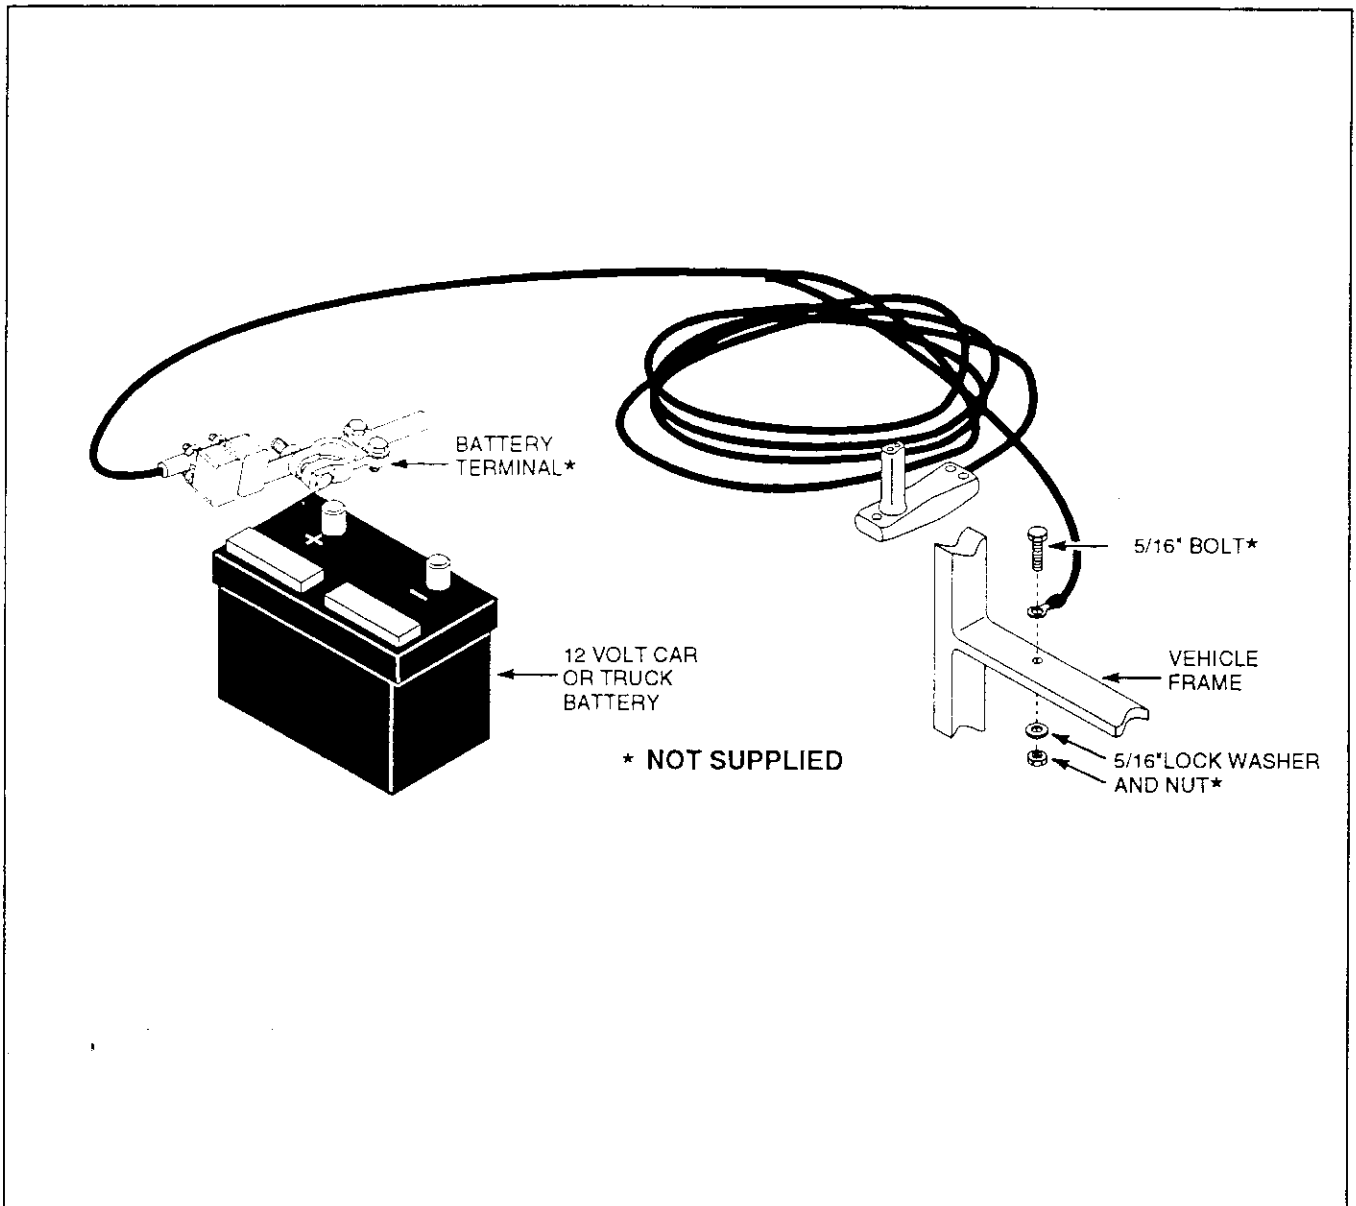

Figure 3 935 Wiring Hookup
To hookup the 935, refer to Figure 3 and follow the outlined procedures.
1. Attach the circuit breaker to the **positive (+)** battery post or to the **positive (+)** battery side of the starter solenoid (See Figure 3).
2. Bad plug.	<ol style="list-style-type: none"> 1. Check the male connection at the end of the wiring kit by using probe light across the two prongs inside the plug. If the light illuminates, the wiring is correct. 2. Remove the two cover connecting screws and rods (See Figure 3) from the cover containing the female socket. Plug the male socket into the female socket. Use a probe light across the two connections on the underside of the female socket. Replace the appropriate socket if the light does not illuminate. If the light illuminates, check the switch and/or motor.